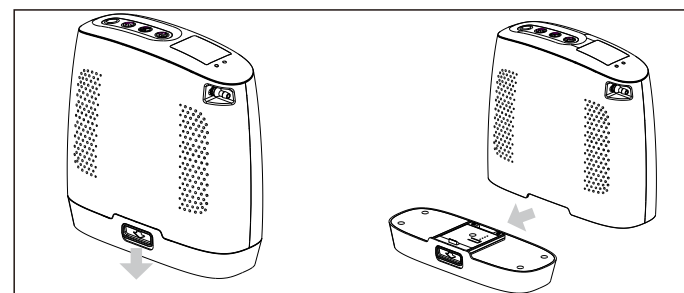

Figure 11
- Place the Spirit-3 on a flat position. Hold the device in one hand, use another hand to push the latch down and pull out the battery from the device. As shown in Figure 11.